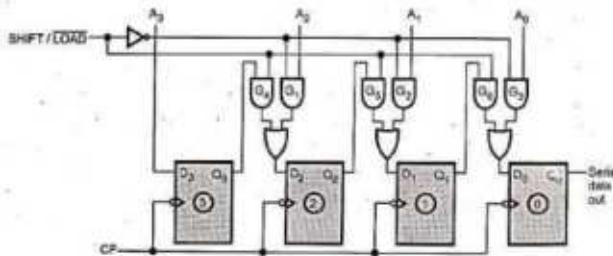

Fig. 5.8.11 Parallel In Serial Out (PISO) shift register
- Fig. 5.8.11 illustrates a four-bit parallel in serial out register.